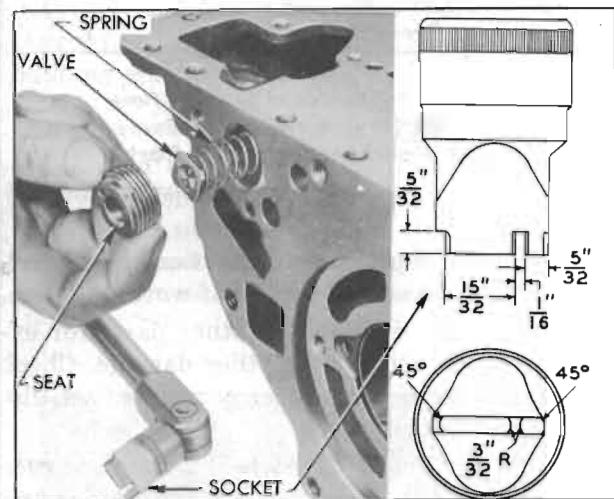

Figure 4-89—Removal of Lubrication Oil Pressure Regulator Valve
4. Remove the lubrication oil pressure regulator valve seat from transmission case, using the locally prepared drag link socket shown in figure 4-89. Remove valve and spring.